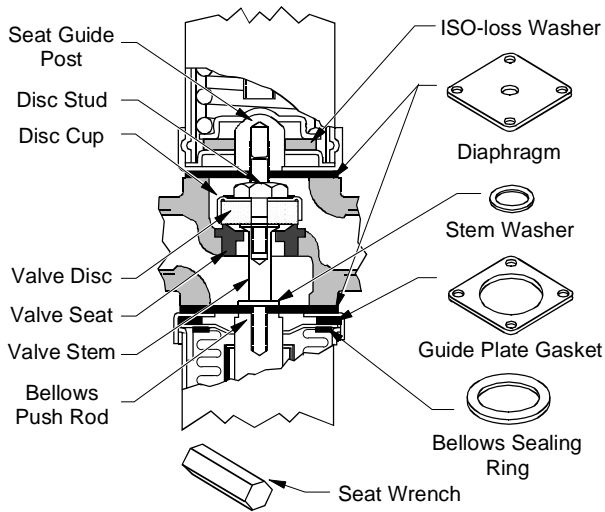

Figure 8: Low Flow Valves
12. If servicing a low flow valve, place the stem washer and new diaphragms on the sensing element end of the valve stem assembly. Use two diaphragms on 3/8 in., 1/2 in., and 3/4 in. valves and three diaphragms on 1 in. and larger valves. Screw into place with the bellows push rod. Attach the sensing element to the valve body. See Figure 8.
13. Place two new diaphragms on the spring housing side of the valve body. Screw into place with the seat guide post (Figure 8).